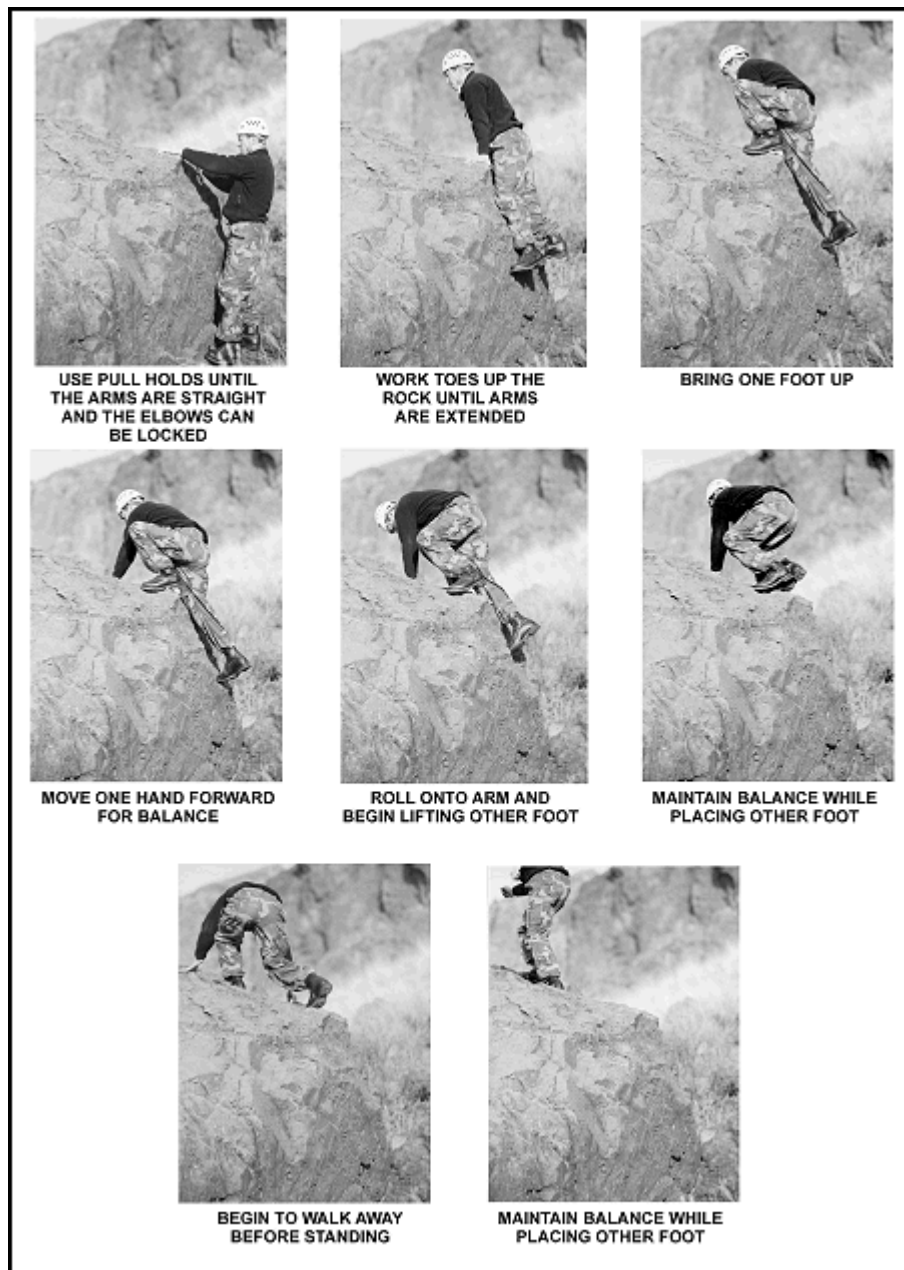

Figure 6-12. Mantling sequence.
(2) **Mantling.** Mantling is a technique that can be used when the distance between the holds increases and there are no immediate places to move the hands or feet. It does require a ledge (mantle) or projection in the rock that the climber can press straight down upon. (Figure 6-12 shows the mantling sequence.)